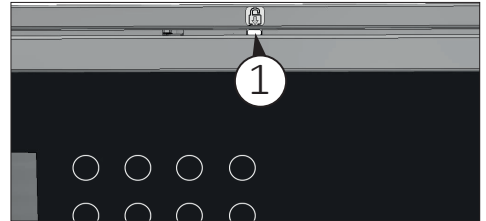
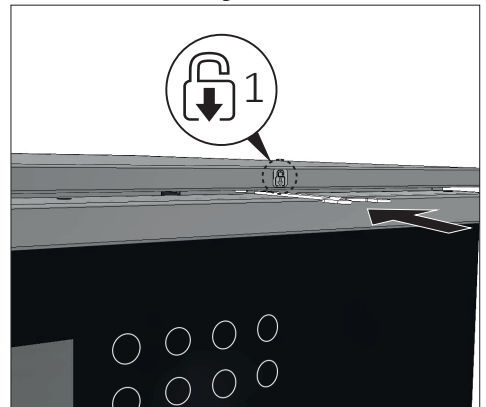

Fig. 12.1
Fig. 12.2
- 1) Push the key supplied in the pack horizontally into the gap between the door and the lid or worktop (1 Fig. 12.1), to position the key correctly, follow the position indicated on the label (1 Fig. 12.2) on the door handle.